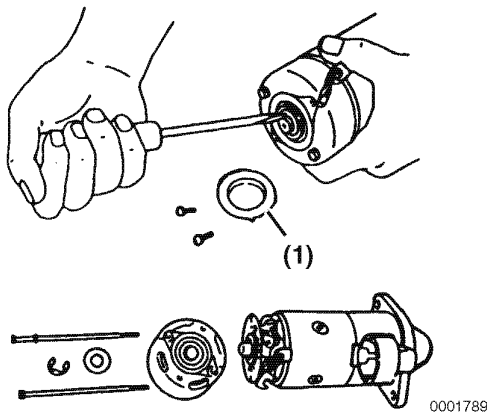

Figure 10-7
6. Remove the rear dust cover (Figure 10-7, (1)).
7. Remove the E-ring, and remove the thrust washer (**Figure 10-7**).